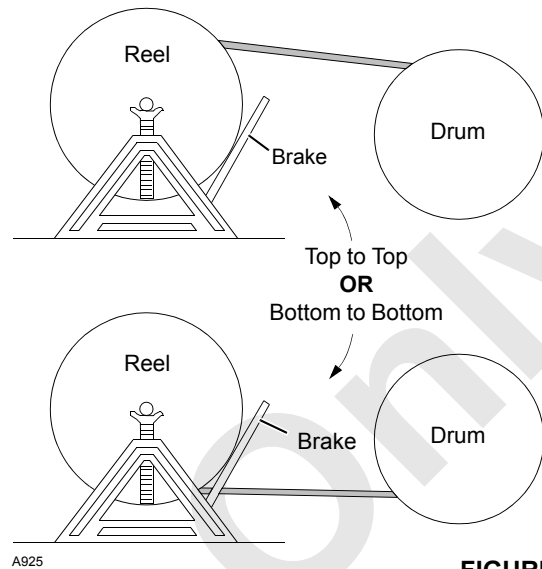

FIGURE 4-37
2. Provide a brake at shipping reel (see Figure 4-37) so wire rope can be wound tightly onto drum.
3. Avoid a reverse bend when winding wire rope onto drum: wind from top of reel to top of drum or from bottom of reel to bottom of drum as shown in Figure 4-37.